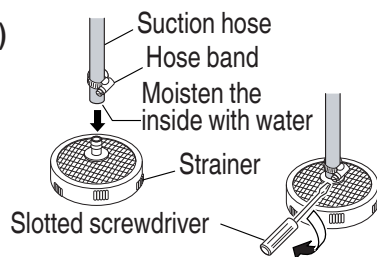

Fig. 13
1. Attaching the strainer to the suction hose (Fig. 13)